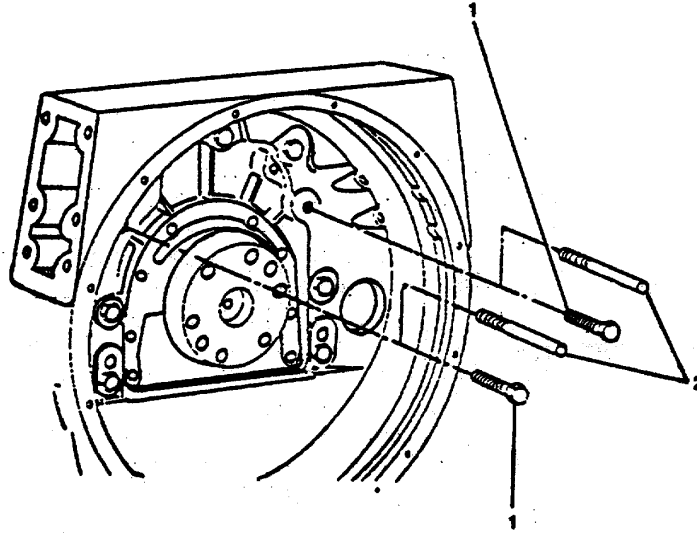

FIGURE 3-67. Flywheel Housing Guide Studs.
- (9) Remove capscrews (1, Figure 3-67) and install two 5/8-18 x 4 inch guide studs (2).